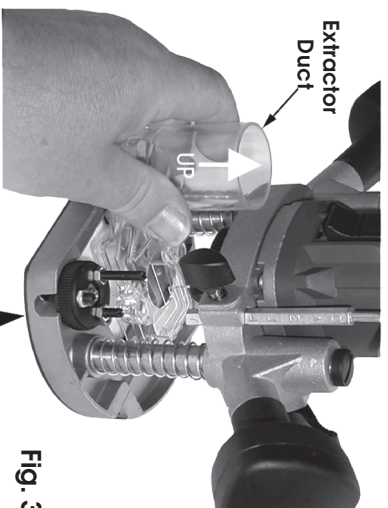

Fig. 3
Fitting The Dust Extractor (see Fig. 3)
1. Holding extractor duct, (item 71), facing upwards, insert bottom into router base from rear of machine and locate in position, (see Fig.3)